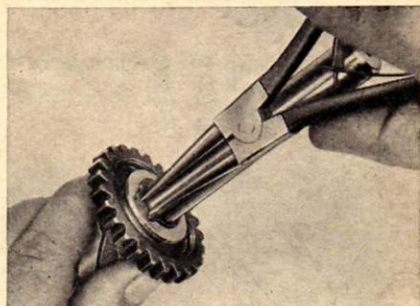

Fig. 37 Removing securing ring from the pedal shaft
1. Remove securing ring from the pedal shaft with a pair of pliers (see fig. 37).